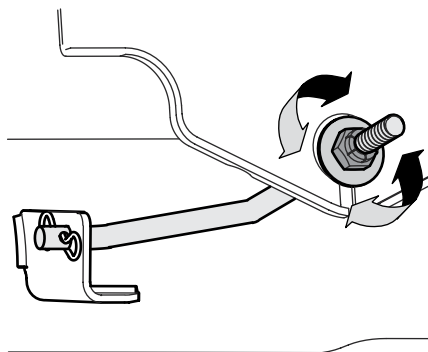

Figure 4-9
3. Locate the jam nut and lock nut on the front side of the stabilizer bracket. See Figure 4-9